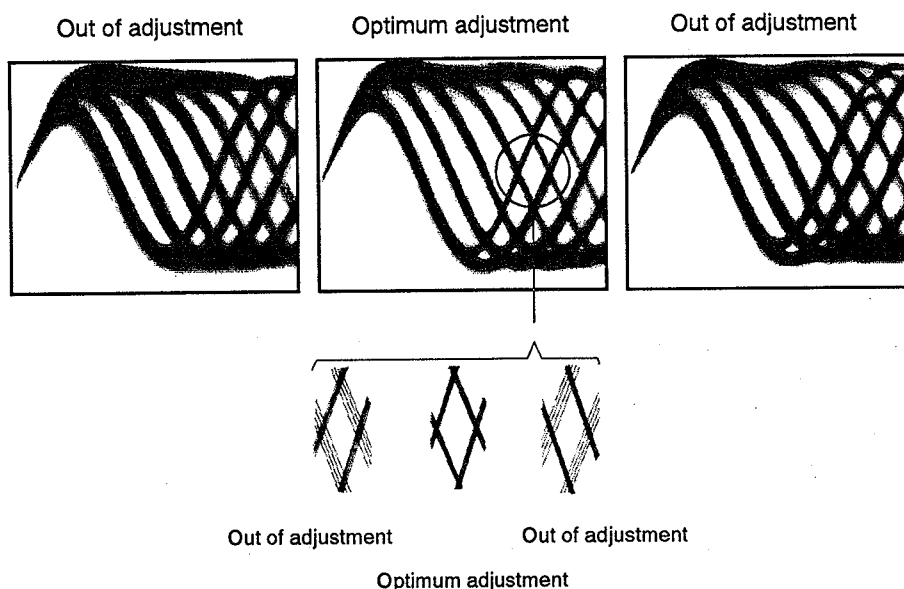

Figure 5 Eye Pattern
3. Next, adjust the tangential tilt adjustment screw with a hex. wrench (L-Shaped type, size: 1.5mm) so that the eye pattern (the diamond shape at the center of the RF signal) can be seen the most clearly (Figure 5).